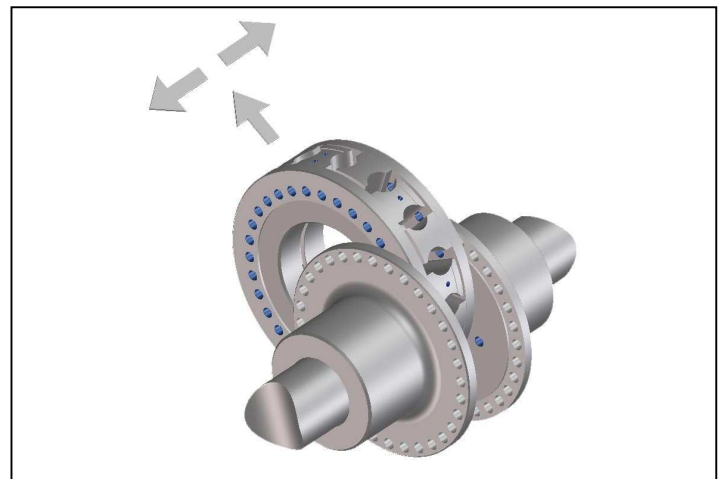

Fig. 11
- Loosen the screws (Fig. 11, Pos. 1), at the circumference of the retaining ring and push it backward (Fig. 11, Pos. 2).
- Take out the elastic buffers (Fig. 11, Pos. 3).
- Remove the claw rings (part 434) from the centering seat of the flange hubs (part 411 and 424 resp.) (Fig. 11) and push them together.